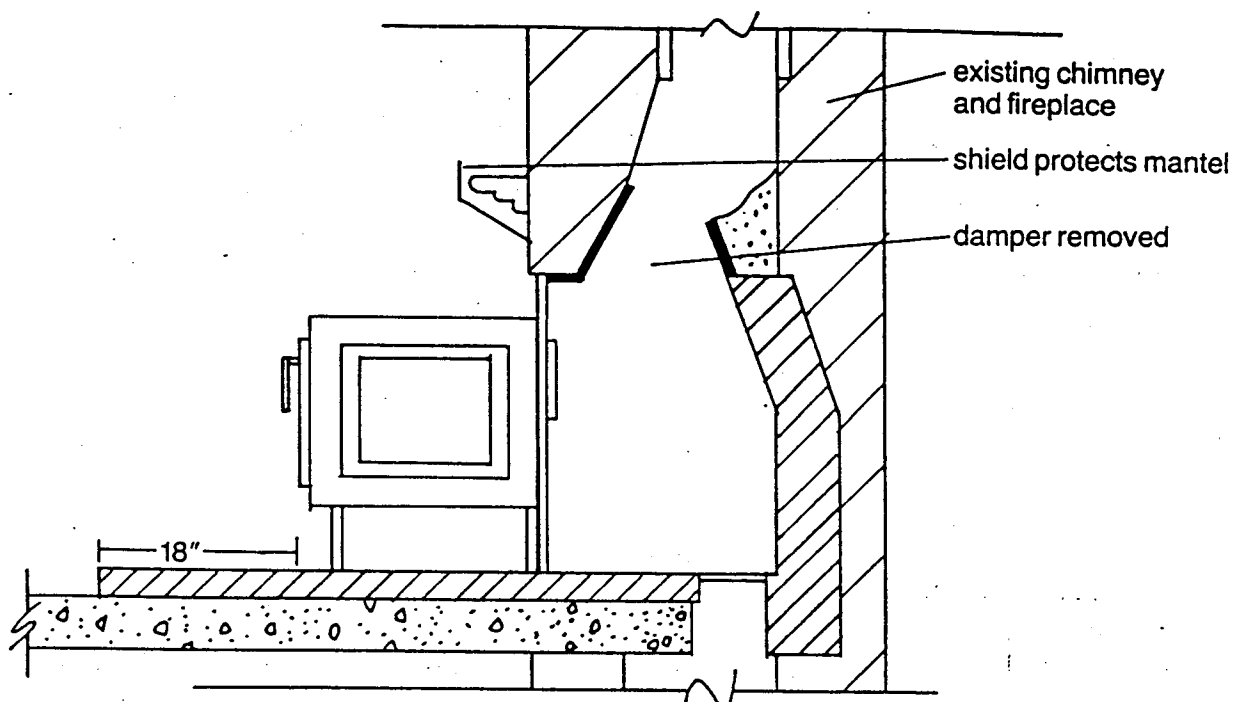

Figure 9.1
A. Fireplace stove—adapted or designed for installation into the face of a fireplace. (Figure 9.1)